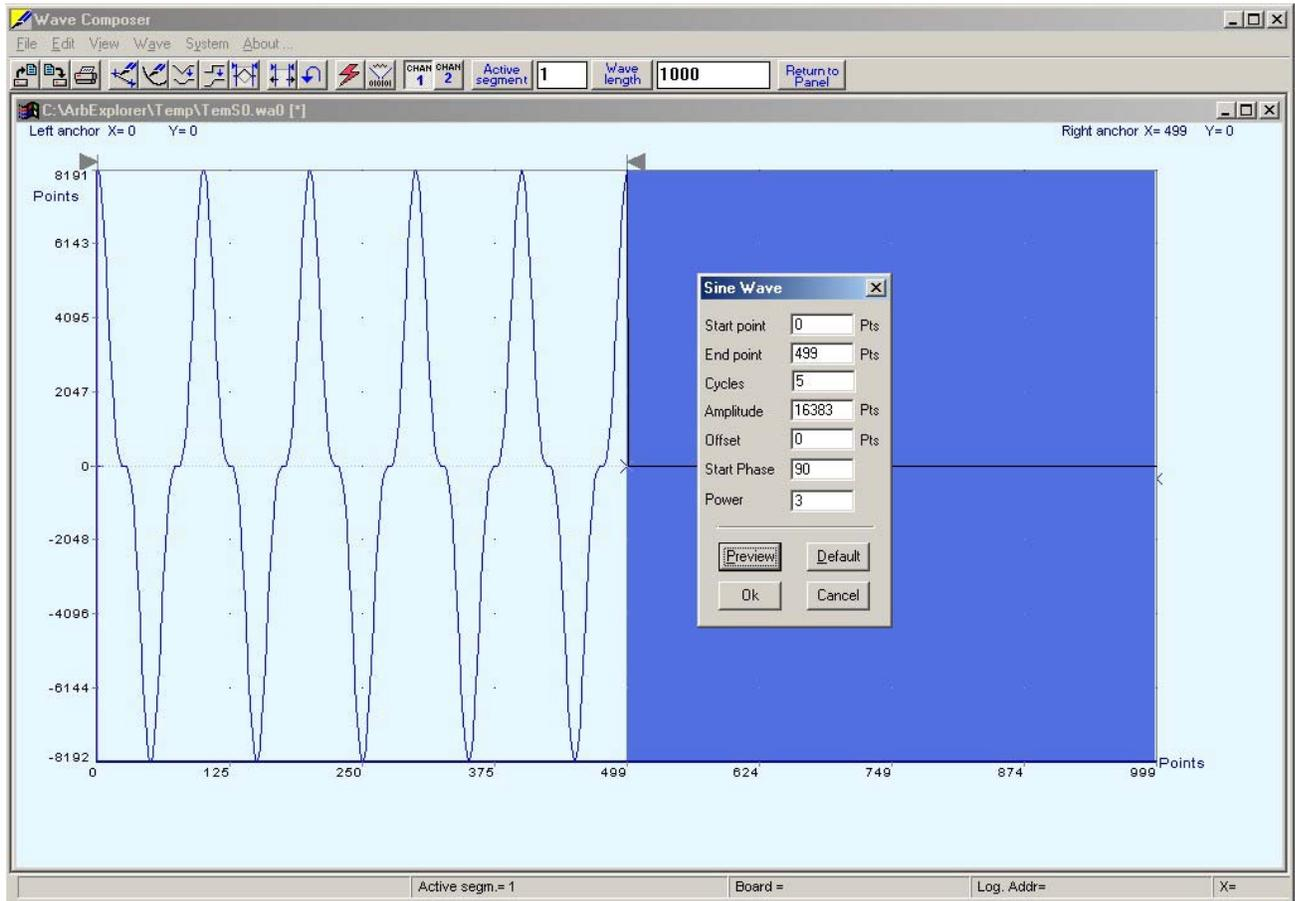

Figure 5-14. An Example of Generating Sine Waveforms From the Built-in Library.
You can create any waveform from the built-in library using the Wave command. Clicking on one of the Wave options will open a dialog box. An example of the Sine waveform dialog box is shown in Figure 5-14. This dialog box is representative of the rest of the waveforms, so other waveforms will not be described.
Use the following procedure to create sine waveforms from the built-in library. Click on Wave, then sine... the dialog box as shown in Figure 5-14 will appear. You can now start programming parameters that are available in this box.
- 2) You can also place your anchors in a more precise manner from the waveform library by programming the start and end points for the waveform. An example of anchor placement using the sine dialog box is shown in Figure 5-14.